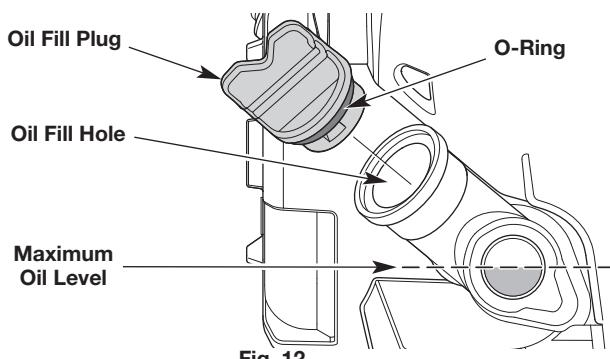

Fig. 12
- Look into the oil level window; use a flashlight if necessary. **The oil level should fill the window approximately halfway** (Fig. 12). If the oil level is too low, add oil. Refer to *Adding Oil*.
- Clean the area around the oil fill plug (Fig. 12) to prevent debris from entering the oil fill hole.
- Add oil to the oil fill hole until the oil level is approximately halfway up the oil level window (Fig. 12).
NOTE: Make sure the O-ring is in place on the oil fill plug (Fig. 12).
1. Clean the area around the oil fill plug (Fig. 12) to prevent debris from entering the oil fill hole.